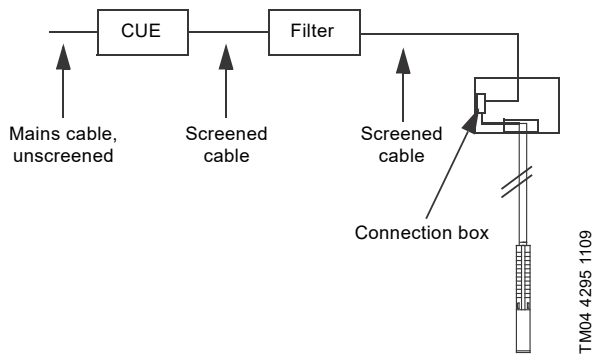

Fig. 50 Example of installation in EMC-sensitive sites
- installation in EMC-sensitive sites. See fig. 50.